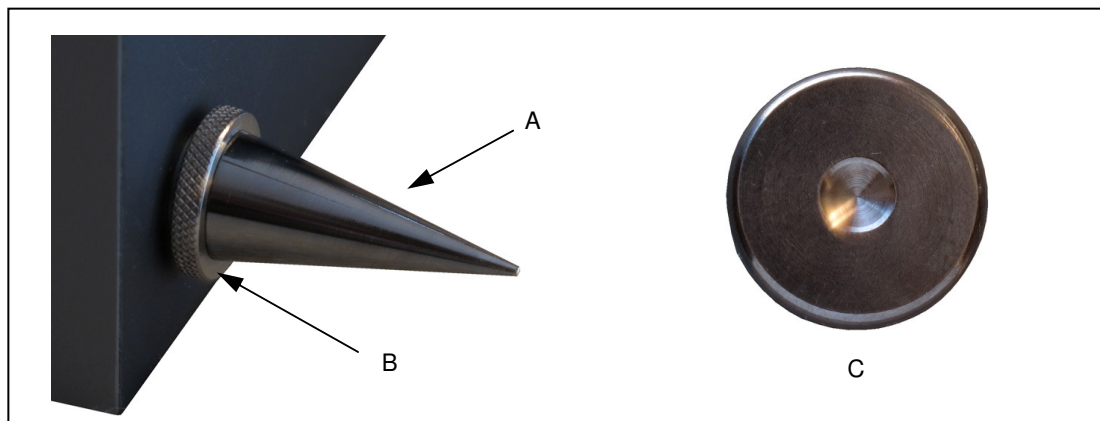

Figure 5. Spike with Locking Nut and Foot (shown enlarged)
The spikes are supplied with a special foot, C, figure 5. This is flat on one side and has a recess machined into the other side. It is intended to be placed under the spike, flat side down and used where the user does not want the spike to come into direct contact with the floor, for example when the
- 1. If the loudspeaker can be rocked in the 10 o'clock to 4 o'clock direction**, lean the loudspeaker to the left and screw **out** the right hand front spike by the amount of movement you saw. Set the loudspeaker back upright and repeat the process until it is sitting squarely on all four spikes. The lock-nut (B figure 5) can now be tightened up against the base of the loudspeaker by hand.
- 2. If the loudspeaker can be rocked in the 2 o'clock to 8 o'clock direction**, lean the loudspeaker to the right and screw **out** the left hand front spike by the amount of movement you saw. Set the loudspeaker back upright and repeat the process until it is sitting squarely on all four spikes. The lock-nut (B figure 5) can now be tightened up against the base of the loudspeaker by hand.